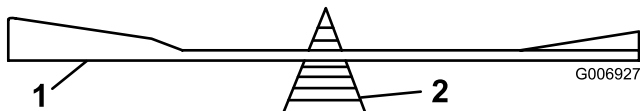

Figure 34
2. Check the balance of the blade by putting it on a blade balancer (Figure 34). If the blade stays in a horizontal position, the blade is balanced and can be used. If the blade is not balanced, file some metal off of the back side of the blade. Repeat this step until the blade is balanced.